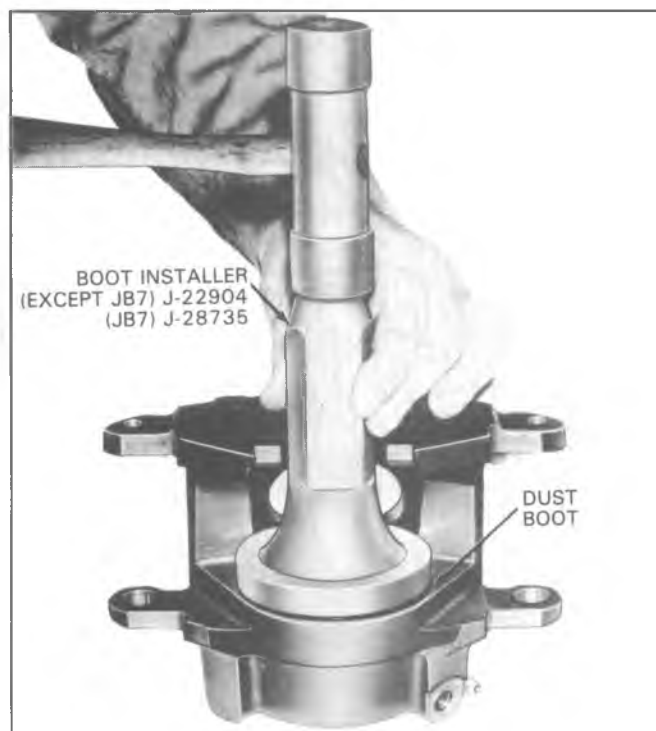

Fig. 5-38--Seating Boot
1. Lubricate the bore in the caliper and the new piston seal with clean brake fluid. Position the seal in the caliper bore groove. Lubricate the piston with clean brake fluid and assemble a new boot into the groove in the piston so that the fold faces the open end of the piston. Insert the piston into the caliper bore, using care not to unseat the seal and force down to the bottom in the bore. This will require a force of 50 to 100 pounds. Position the outside diameter of the boot in the caliper counterbore and seat with Tool J-22904 (fig. 5-38).